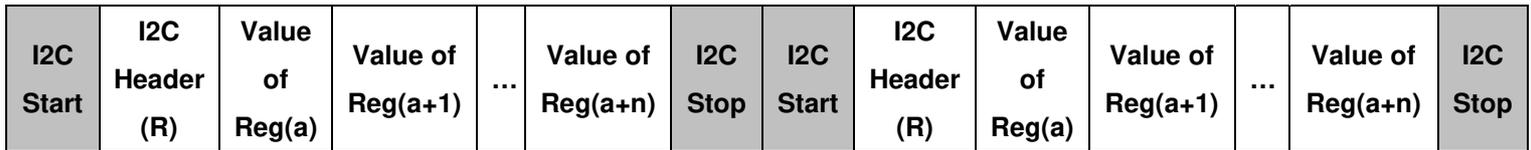

Figure 2 - Repeated Register Read.
Sitronix Touch IC I2C host interface protocol supports *Repeated Register Read*. That is, once the *Start Register Address* has been set by host, consequent I2C Read(R) transactions will directly read register values starting from the *Start Register Address* without setting address first, as shown in Figure 2.